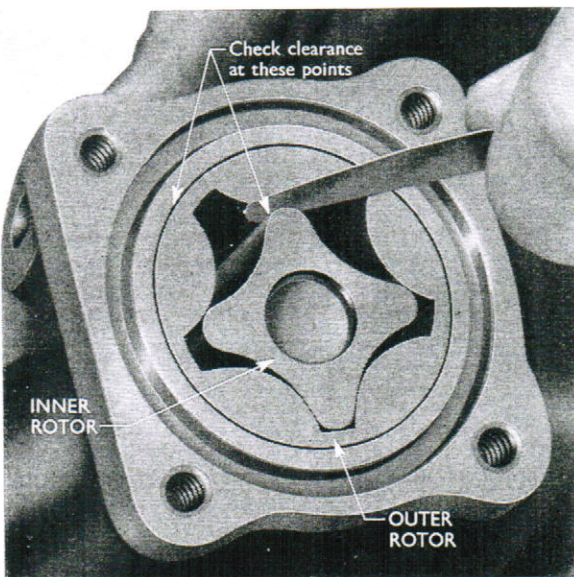

Fig. 5
4. Check the clearance between the lobes of the inner and outer rotors. This should be checked in two positions as shown in Figs. 5 and 6, and must not exceed 0.006 in. (0.152 mm.). Check the clearance between the outer rotor and the housing, this should not exceed 0.0075 in. (0.19 mm.).